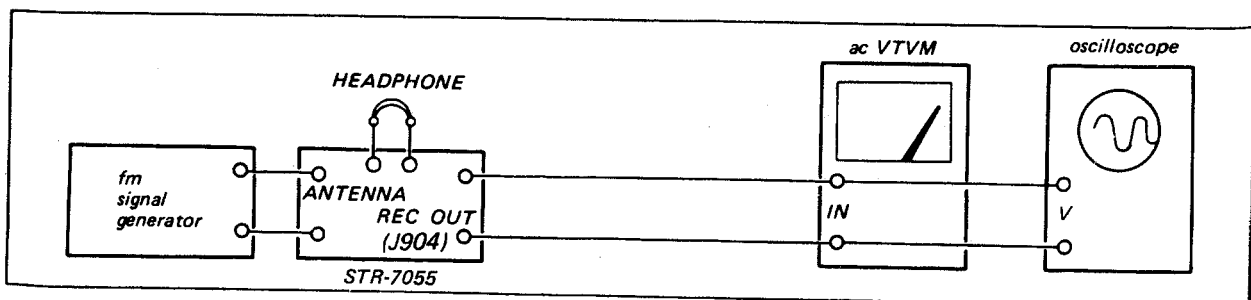

Fig. 3-4. Fm i-f, discriminator, muting and front-end alignment test setup
2. Connect the test equipment and a headphone as shown in Fig. 3-4.
1. With the test equipment connected as shown in Fig. 3-4, set the signal-generator controls as follows:
- With the test equipment connected as shown in Fig. 3-4, set the receiver controls as follows:
2. Connect the test equipment as shown in Fig. 3-4.